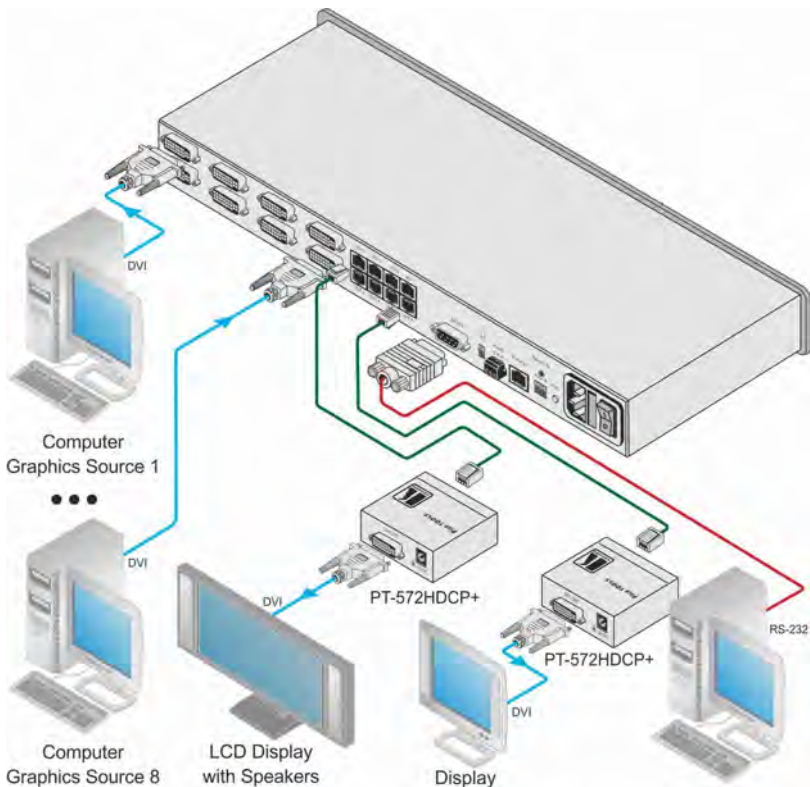

Figure 3: Connecting the VS-88DTP 8x8 DVI - Twisted Pair Matrix Switcher
To connect the VS-88DTP as illustrated in the example in Figure 3:
4. Connect the power cord (not shown in Figure 3).